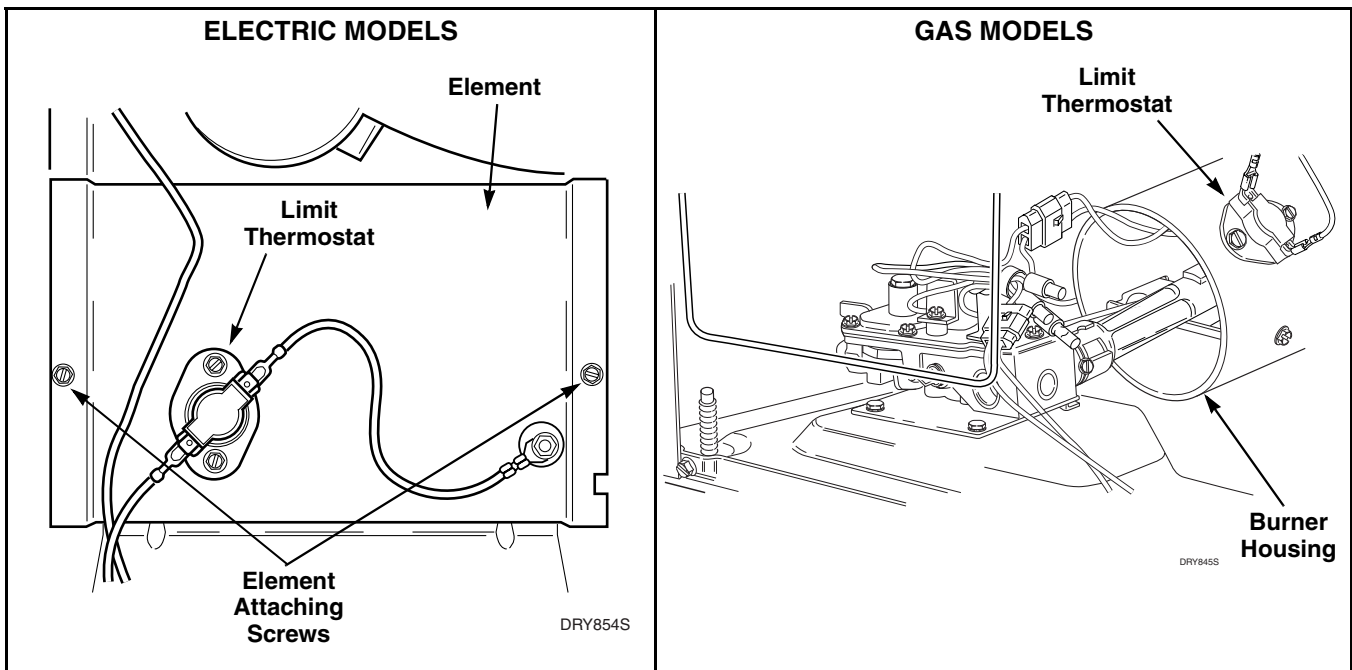

Figure 16
- (1) Remove access door by applying thumb pressure to right edge of door. When door opens, move door to left to disengage from door supports.
- (2) Refer to *Figure 16* for thermostat removal.
- Remove two hex head screws holding element and plate to heater box and pull element down and away from heater box. Refer to *Figure 16*.